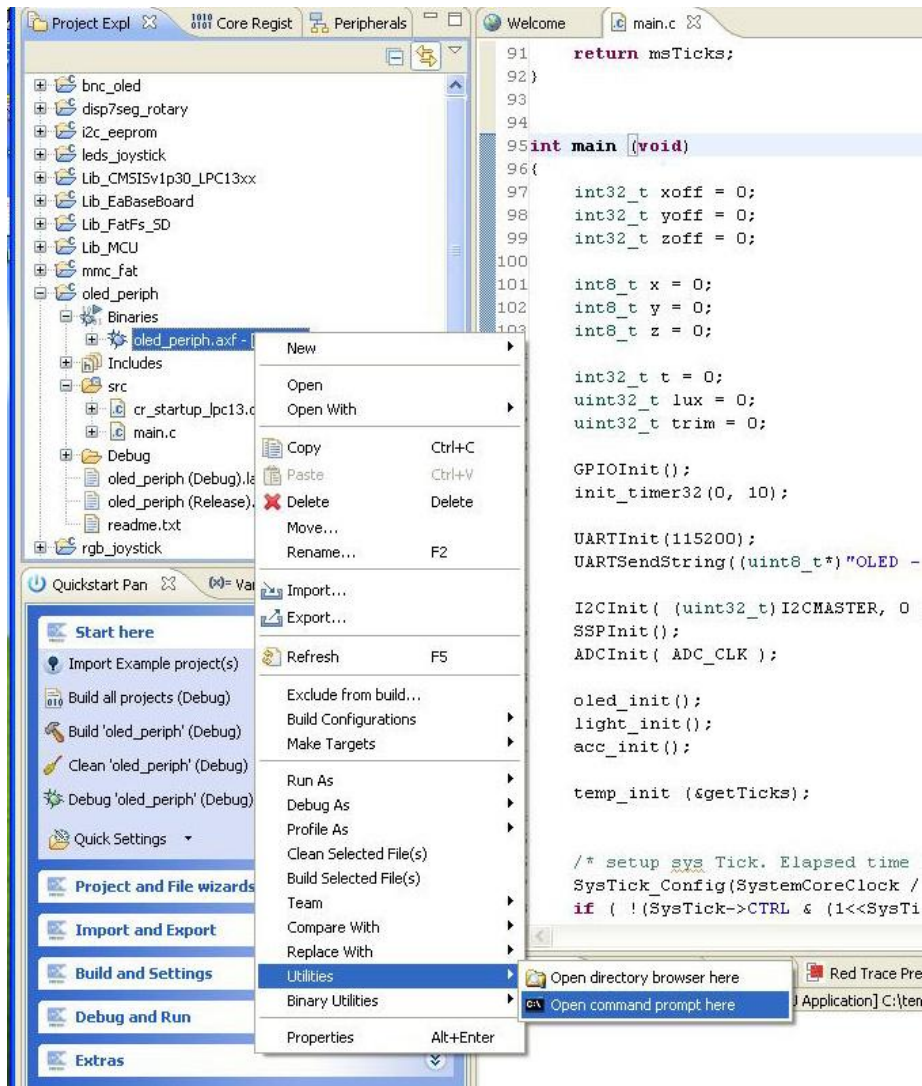

Figure 7 – LPCXPRESSO IDE Open Command Prompt
3. Open a command prompt in the directory containing the axf file. This can be done from the Utilities menu, see *Figure 7*.